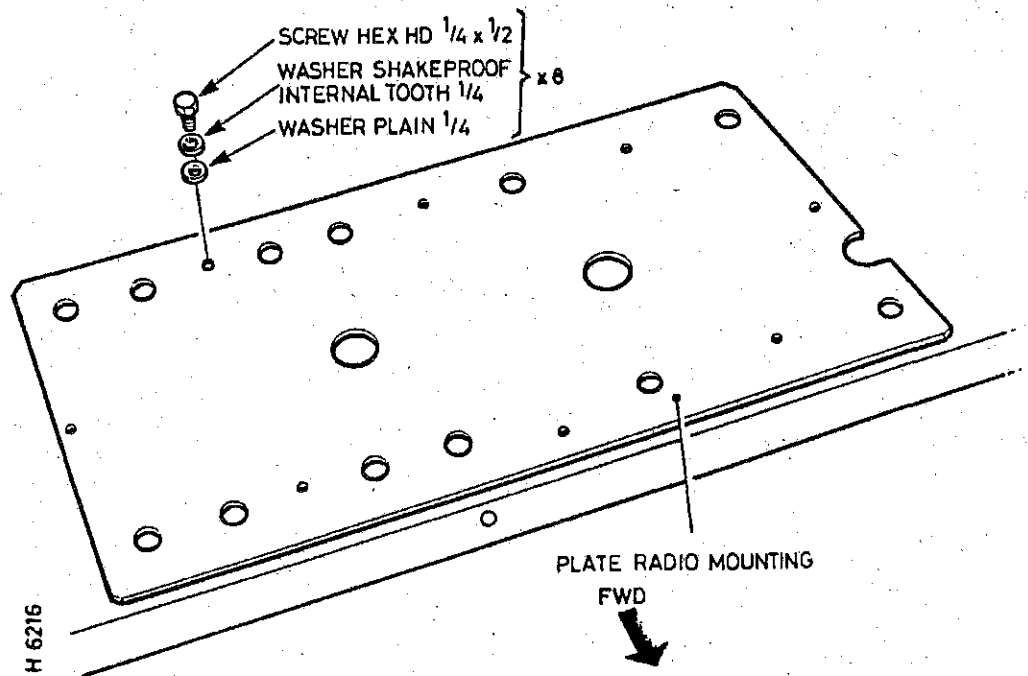

Fig 9 Plate radio mounting
28 Position the Plate Radio Mounting (19) over the fixing holes on the rear sill as shown in Fig 9, and secure using eight off each 1/4 UNC screws, shakeproof washers and plain washers. (Operation 15).